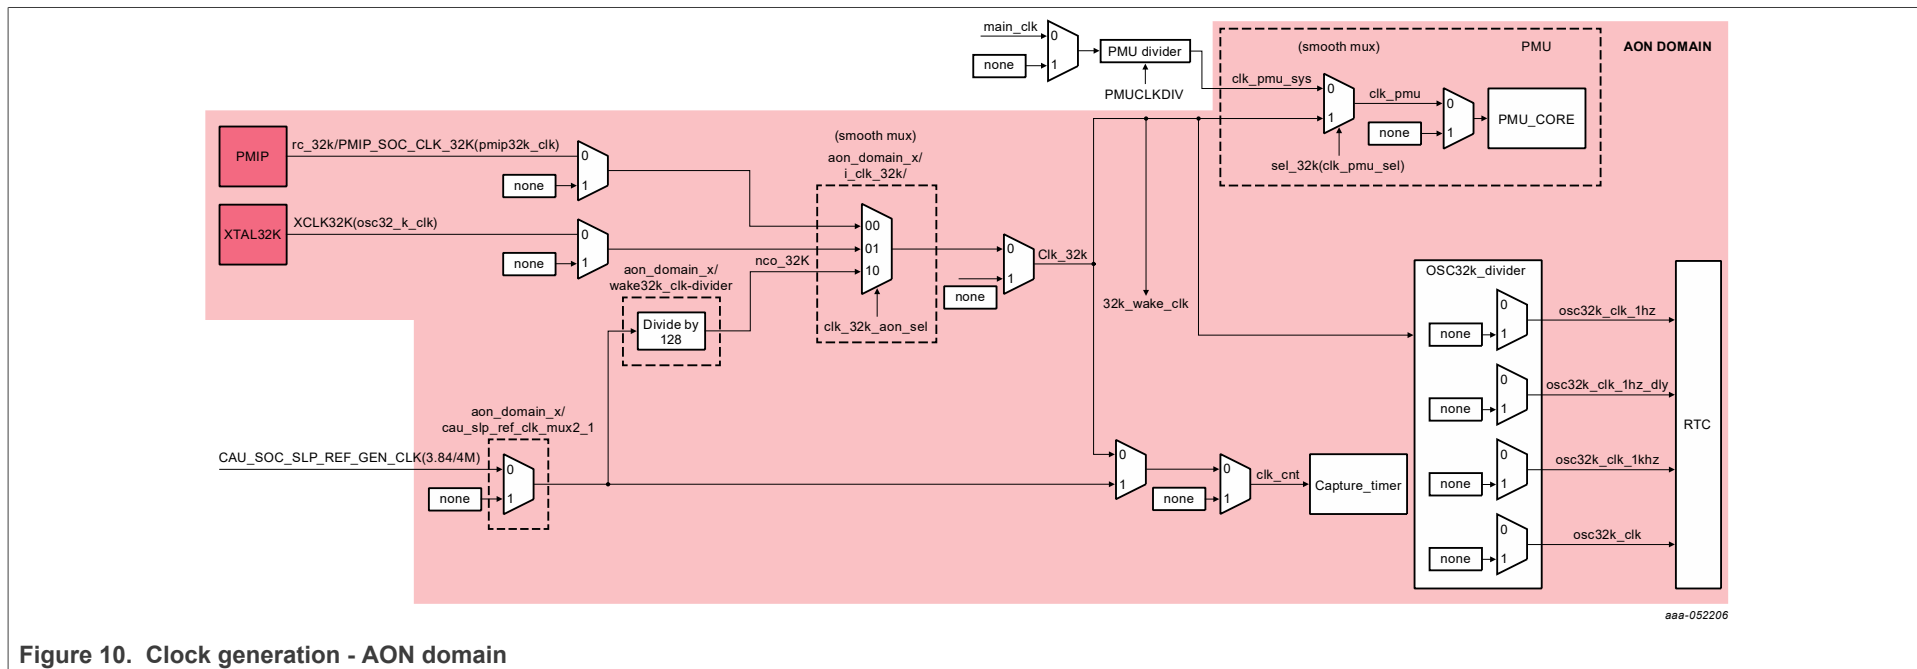

Figure 10. Clock generation - AON domain
The 32 kHz crystal oscillator has very high accuracy and can be selected as *clk_32k* option after AON_domain reset release, as illustrated in Figure 10.
- Figure 10 "Clock generation - AON domain"
- CAU_SOC_SLP_REF_GEN_CLK(3.84/4M) is running (Figure 10). The DMA can use the 1M clock (3.84/4M divided by 4) to transfer data between some peripherals and the memory in PM2 mode.